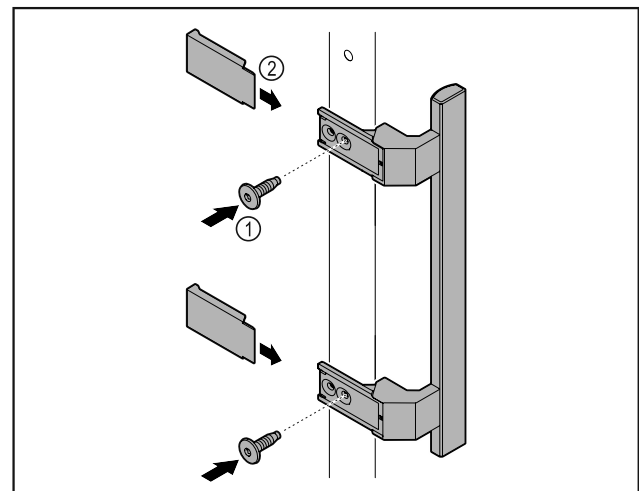

Fig. 49
- ▶ Attach handle from accessory kit to the door using supplied screws Fig. 49 (1).
- ▶ Put on cover Fig. 49 (2).